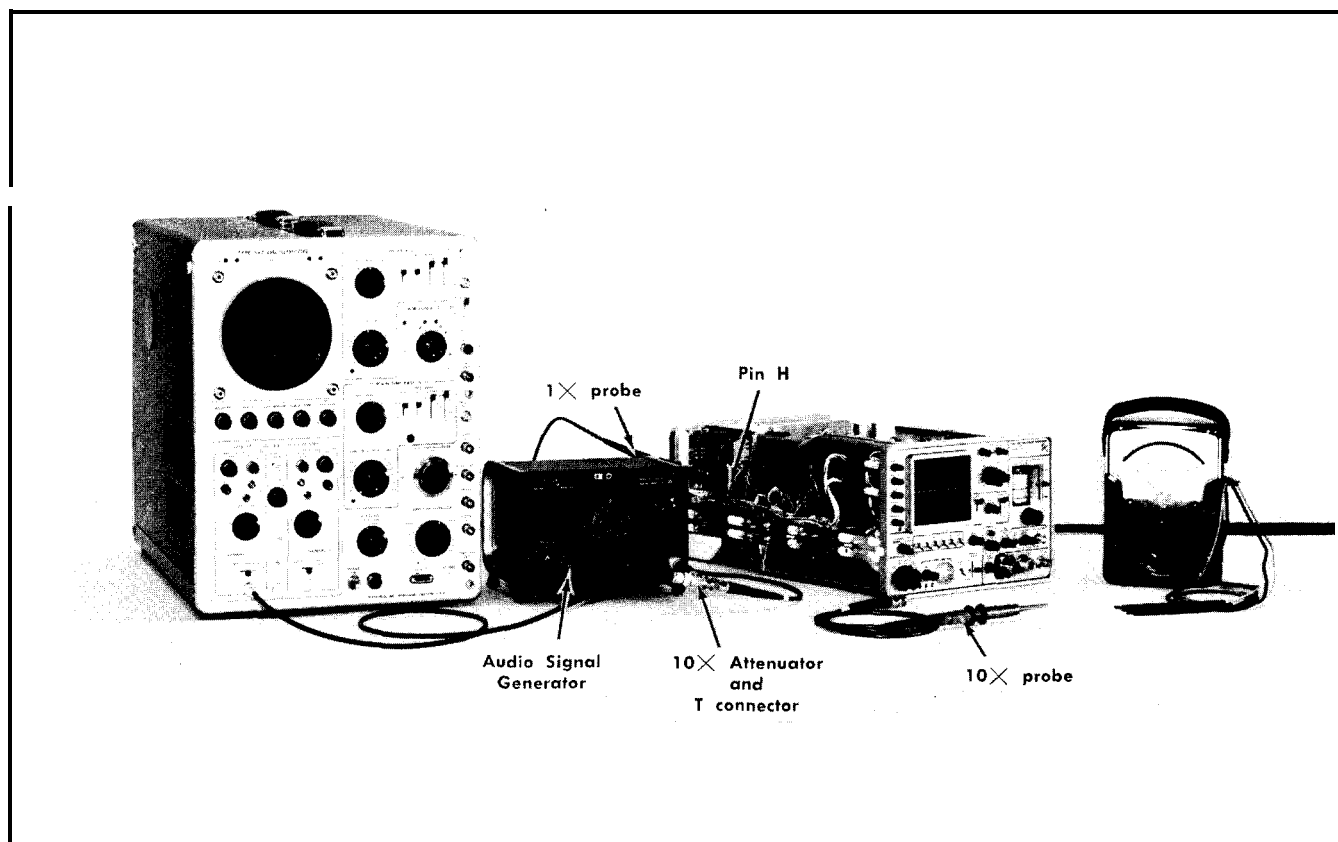

Fig. 6-11. Equipment setup for adjusting and checking triggering,
a. Equipment setup is shown in Fig. 6-11.